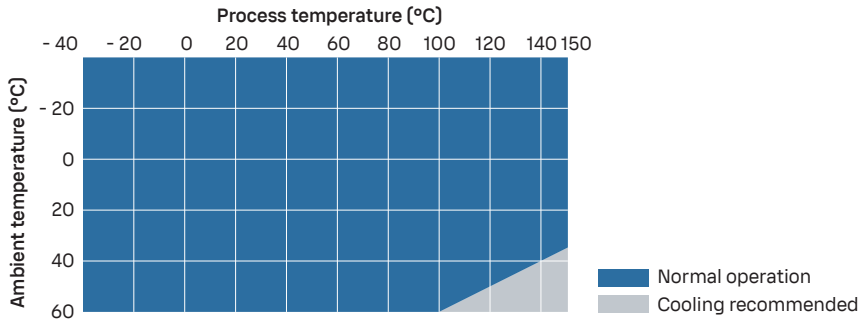

Figure 2 Process temperature and recommended cooling
- Use additional cooling according to Figure 2 \(page 13\). Notice that the values in the figure are indicative. Required cooling depends on the installation location and environment.